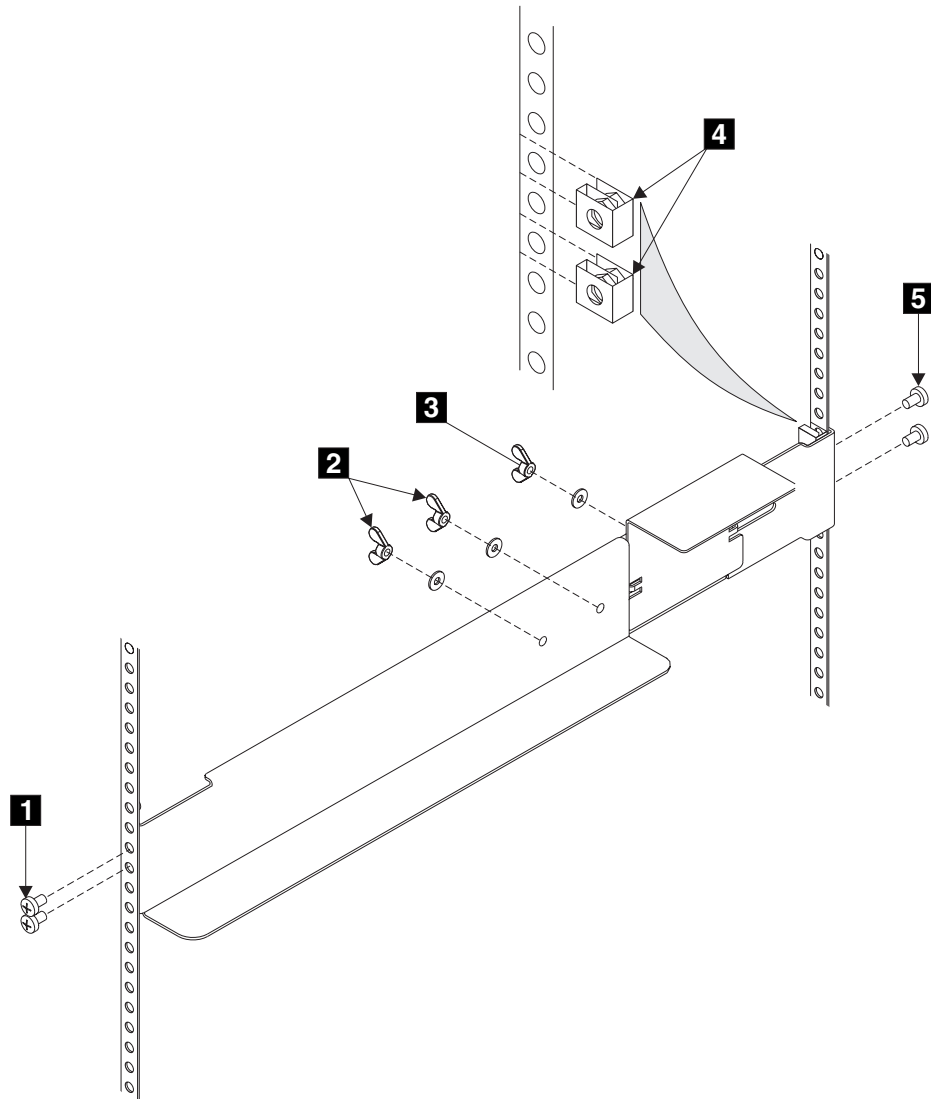

Figure 316. Installing support rails for a 2145 uninterruptible power supply into the rack
1. Attach nut clips **4** to the rack (see Figure 316 on page 641). These nut clips must align with the second and fourth holes of the support rail flange.